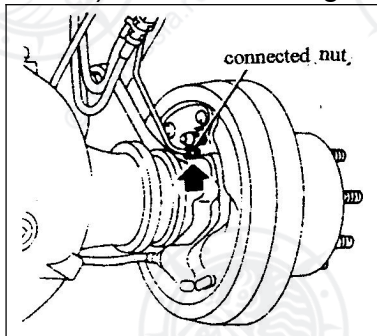

Fig.5-1
- 4) Disconnect brake nuts from left and right cylinders.(see fig.5-1)。